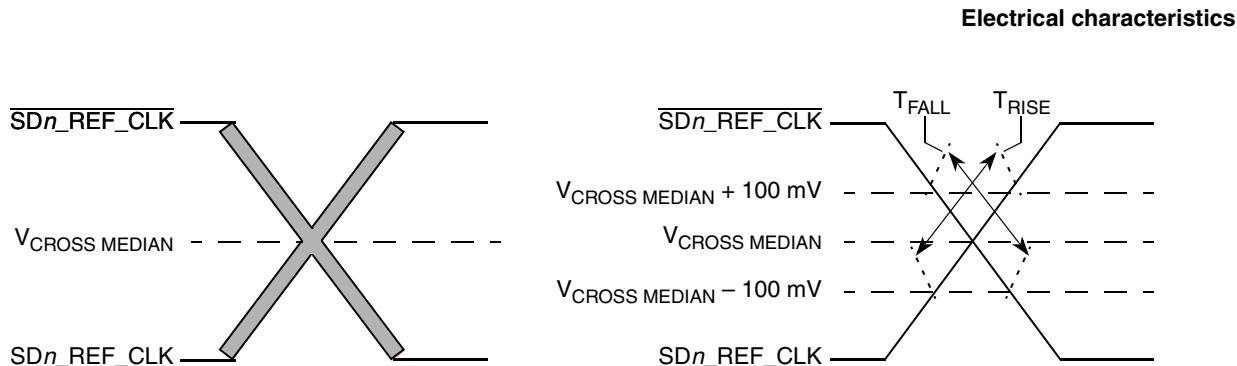

Figure 41. Single-ended measurement points for rise and fall time matching
6. Matching applies to rising edge for SD_REF_CLK n and falling edge rate for $\overline{SD_REF_CLKn}$. It is measured using a 200 mV window centered on the median cross point where SD_REF_CLK n rising meets SD_REF_CLK n falling. The median cross point is used to calculate the voltage thresholds that the oscilloscope uses for the edge rate calculations. The rise edge rate of SD_REF_CLK n should be compared to the fall edge rate of $\overline{SD_REF_CLKn}$, the maximum allowed difference should not exceed 20% of the slowest edge rate. See Figure 41.